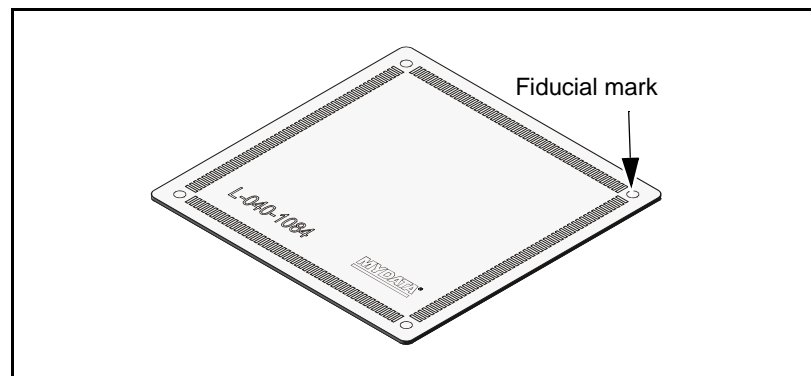

Figure 4-16. Calibration component (L-040-1084).
- Calibration component (L-040-1084), see Figure 4-16.